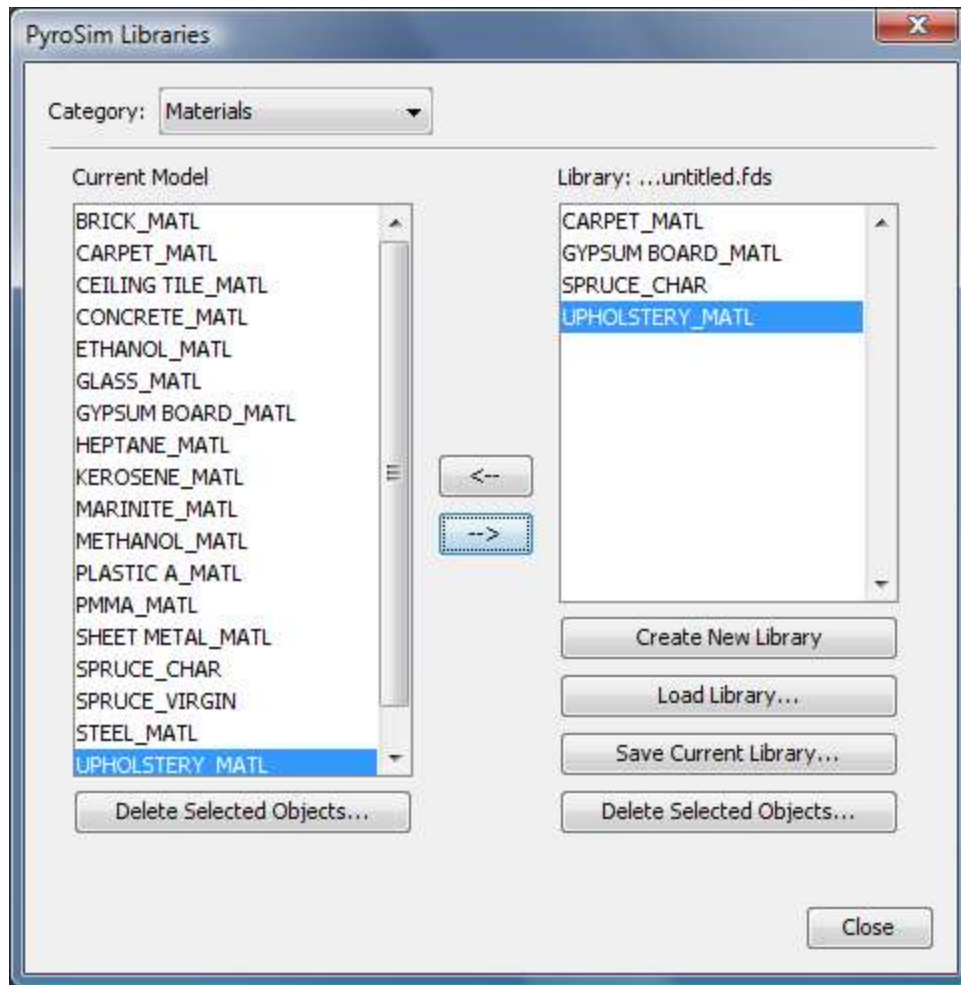

Figure 149. Creating a library of materials
2. Select the **Category** that you want to manage and move selected items from the **Current Model** into the **Library**, Figure 149.